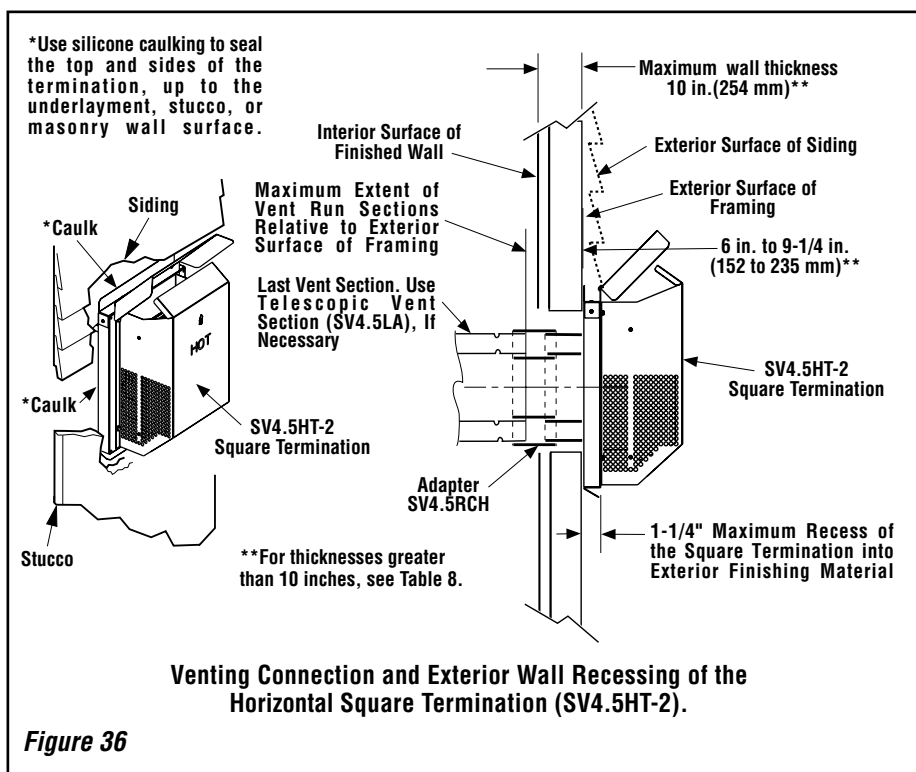

Figure 36
J. Assemble vent run to exterior wall - If not previously measured, locate the center of the vent at the exterior wall. Prepare an opening as described in **Step B**. Assemble the vent system to point where the terminus of the last section is within 7 in. (178 mm) to 11-1/4 in. (286 mm) inboard of the exterior surface to which the SV4.5 HT termination is to be attached, see **Figure 36**. If the terminus of the last section is not within this distance, use the **telescopic vent section SV4.5LA**, as the last vent section. For wall thicknesses greater than that shown in **Figure 36**, refer to **Table 8 on page 22**. This table lists the additional venting components needed (in addition to the termination and adapter) for a particular range of wall thicknesses.
1. Install the square termination (SV4.5HT-2)- For the last step, from outside the exterior wall, slide the collars of the termination onto the adapter (the outer over the outer and the inner inside the inner) until the termination seats against the exterior wall surface to which it will be attached. Orient the housing of the termination with the arrow pointed upwards. Secure the termination to the exterior wall. **The horizontal termination must not be recessed into the exterior wall or siding** by more than the 1-1/4" (32 mm) as shown in **Figure 36**.
Table 8 *Note: See Figure 36 showing wall thickness range when using SV4.5HT-2 termination kit.*